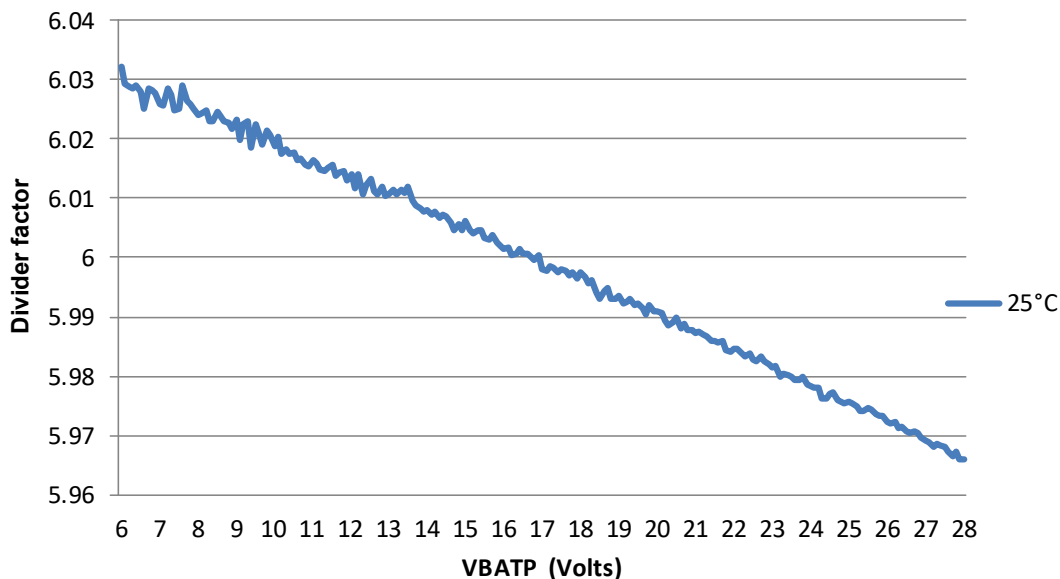

Figure 4. Divide by 6 coefficient accuracy
22. Calibration of divider ratio can be done at $V_{BAT} = 12\text{ V}$, $25\text{ }^\circ\text{C}$ to achieve a higher accuracy. See Figure 4 for AMUX offset linearity waveform through the operating voltage range.